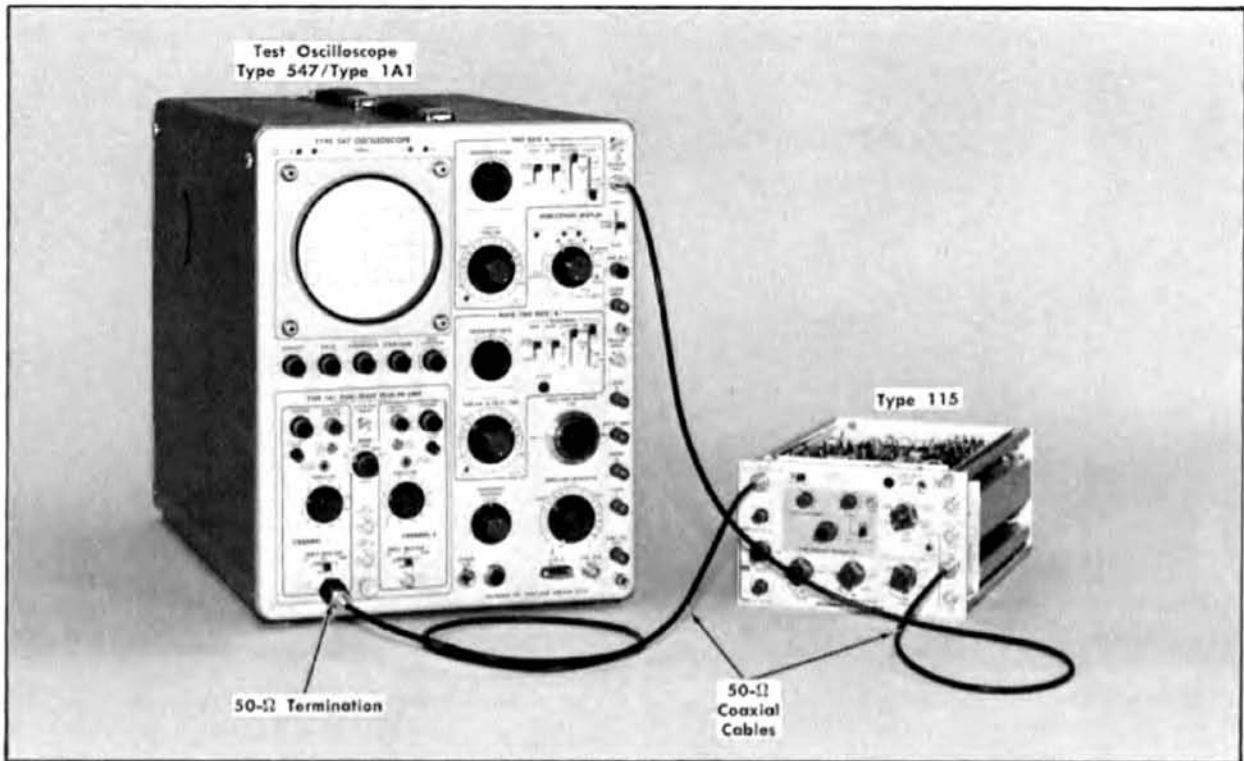

Fig. 5-7. Initial test equipment setup for steps 9 through 14.
- Test equipment setup is shown in Fig. 5-7.
a. (If steps 9, 10 and 12 have just been completed, go to part n of this step). Test equipment is shown in Fig. 5-7.